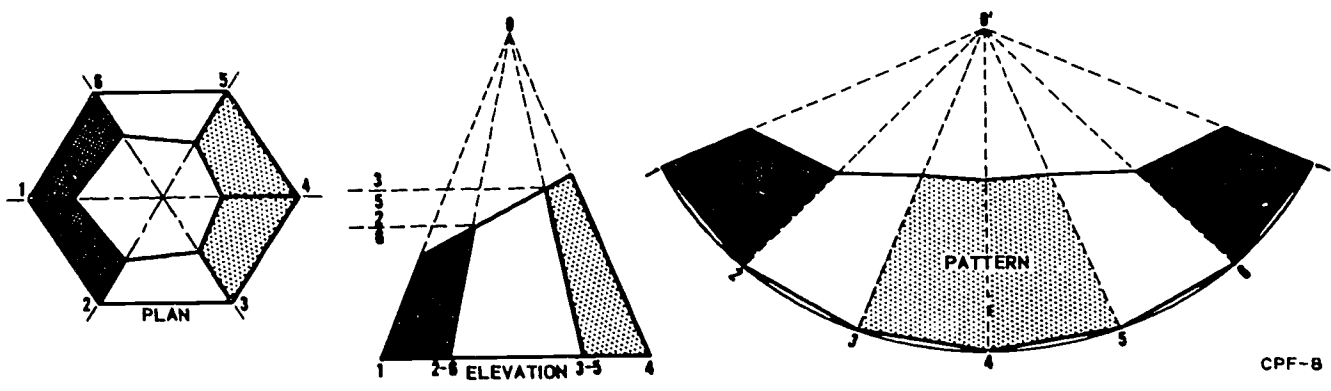

Figure 1-77. Truncated pyramid pattern development.
**Truncated pyramid.** A pyramid with the top cut off (truncated) parallel to the base is called a regular frustum of a pyramid. A pyramid with the top cut off at an angle to the base is called an irregular frustum, as shown in the elevation view of figure 1-77. The pattern for an irregular frustum of a pyramid is developed in a manner similar to that for an entire pyramid—with the exception of the element lines, which are no longer the same length. To construct this pattern, draw the plan view and elevation view as described previously; this provides the shape and dimensions of the pyramid. Observe in the elevation view that lines have been constructed to locate the vertex of the pyramid; this is an essential part of the pattern. The plan view shows the base outline of the pyramid from which the side widths may be obtained. Draw the stretchout the same as for an entire pyramid, except for the length of the element lines. You are now at the step where the method of obtaining the true length of the element line is different because of the truncation.
Suppose the pattern begins with the shortest element (line O'-1). This element line, as seen in the elevation view of figure 1-77, is of true length and can be transferred to the stretchout. Element lines 2, 6, 3, and 5 do not show their